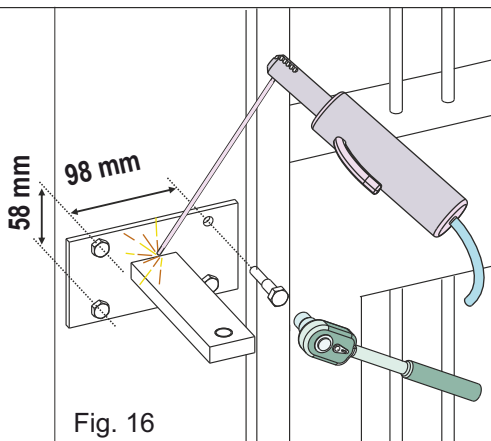

Fig. 16
- According to the opening (*inward or outward*) and to the choice of the leaf max. rotation, the bracket must first be cut by respecting the «a» dimension shown on chapters 6 or 7 and then welded - Fig. 16